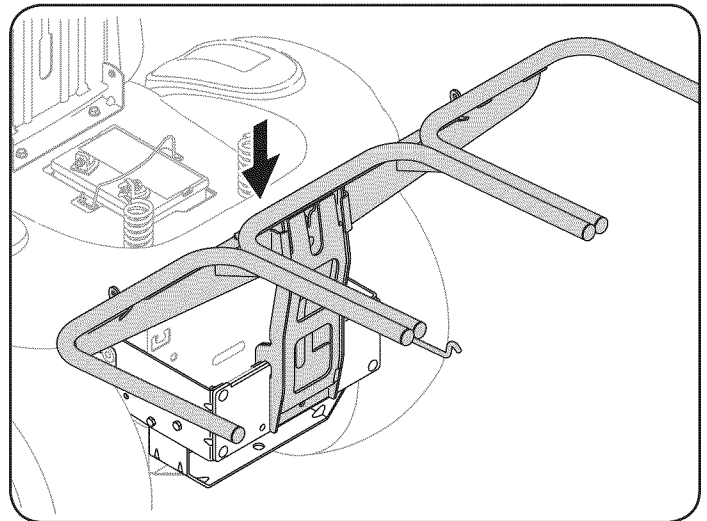

Figure 7
3. Install the bagger hanger assembly onto the mounting assembly on the tractor by hooking it over the hitch plate in the center, lining up the center mounting hole as seen in Fig. 7.